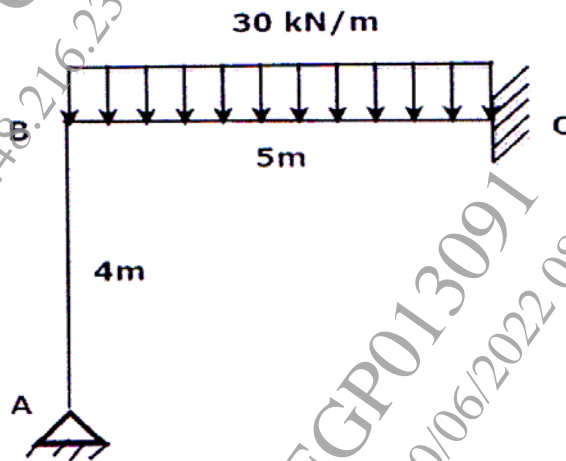

Figure 4
- b) Analyse the bent shown in figure 4 by slope deflection method. Assume uniform flexural rigidity. [6]